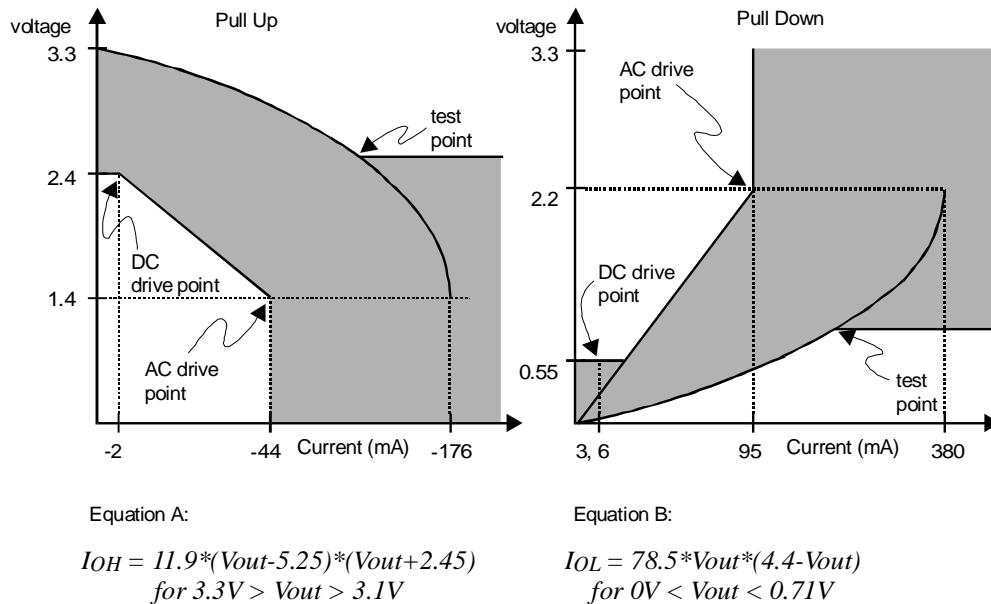

Figure 1. AC Characteristics
- Refer to V/I curves in Figure 1. Specification does not apply to PCICLK and RST# signals. Switching CurrentHighspecificationdoesnotapplytoSERR#,PME#,CLKRUN#,andINTA#whichareopendrainoutputs.